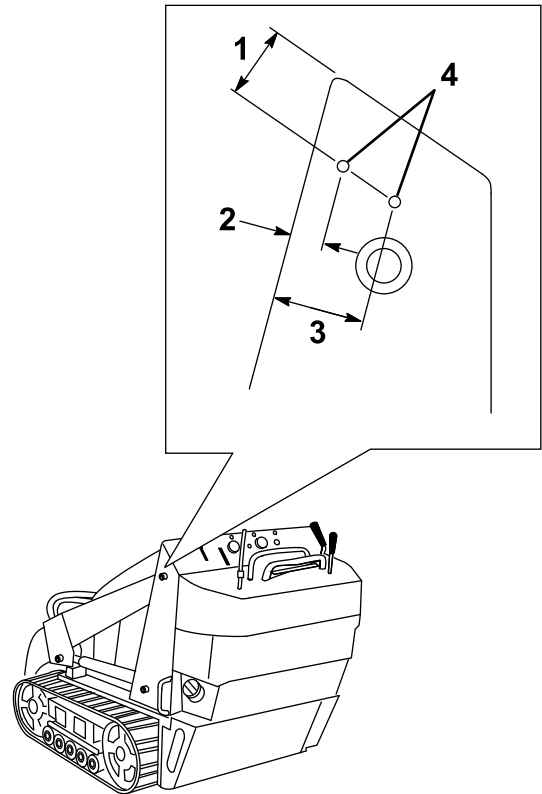

Figure 4
1. Measure in from the edges of the frame as illustrated in Figure 4 and mark the locations of the holes for mounting the shield bracket.